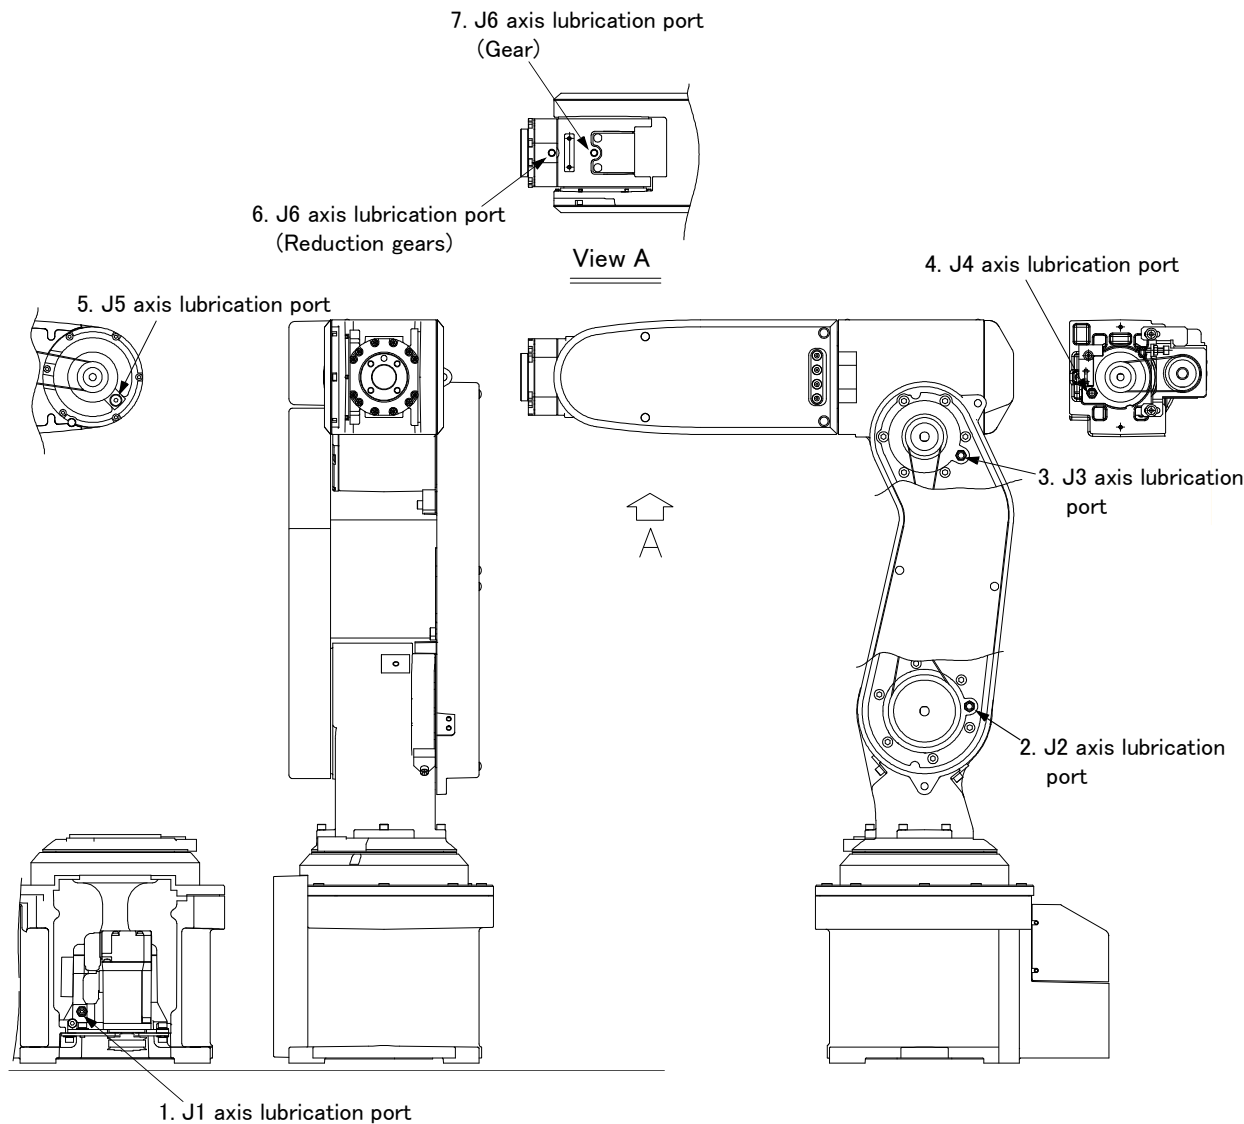

Fig.5-27 : Lubrication positions (RV-2FR series)
The grease nipple position is shown in Fig. 5-27. The lubrication specifications for each place are shown in Table 5-10. Refer to the Page 104, "5.3.2 Installing/removing the cover" for the method of removing and installing the cover.
- The numbers in Table 5-10 correspond to the supply positions in Fig. 5-27.
- 1) Set the robot to the posture shown in Fig. 5-27.